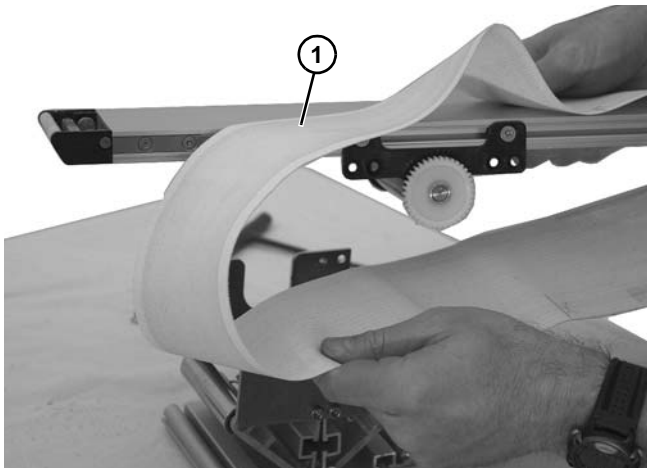

Figure 27
3. Install belt (**Figure 27, item 1**) on conveyor. Lift conveyor slightly to avoid pinching belt on temporary support stands.